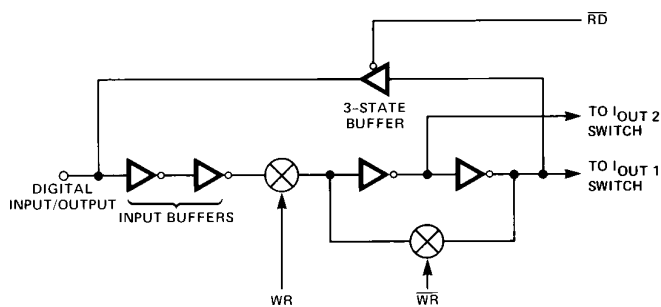

Figure 5. Digital Input/Output Structure
Figure 5 shows the digital input/output structure for one bit. The digital WR,  $\overline{WR}$ , and  $\overline{RD}$  controls shown in the figure are internally generated from the external  $A/\overline{B}$ ,  $R/\overline{W}$ ,  $\overline{DS1}$ , and  $\overline{DS2}$  signals. The combination of these signals decide which DAC is selected. The digital inputs are CMOS inverters, designed such that TTL input levels (2.4 V and 0.8 V) are converted into CMOS logic levels. When the digital input is in the region of 1.2 V to 1.8 V, the input stages operate in their linear region and draw current from the +5 V supply (see Typical Supply Current vs. Logic Level curve on page 6). It is recommended that the digital input voltages be as close to  $V_{DD}$  and DGND as is practical in order to minimize supply currents. This allows maximum savings in power dissipation inherent with CMOS devices. The three-state readback digital output drivers (in the active mode) provide TTL-compatible digital outputs with a fan-out of one TTL load. The three state digital readback leakage-current is typically 5 nA.
**General Ground Management:** AC or transient voltages between AGND and DGND can appear as noise at the DAC8408's analog output. Note that in Figures 5 and 6, IOUT2A/IOUT2B and IOUT2C/IOUT2D are connected to AGND. Therefore, it is recommended that AGND and DGND be tied together at the DAC8408 socket. In systems where AGND and DGND are tied together on the backplane, two diodes (1N914 or equivalent) should be connected in inverse parallel between AGND and DGND.